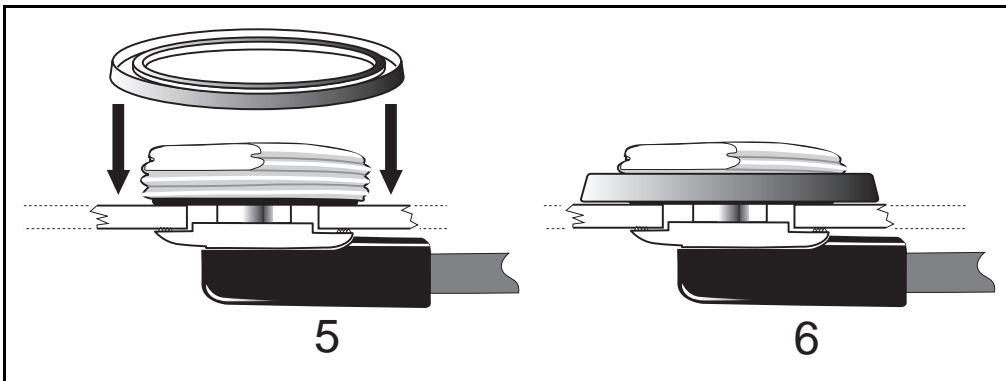

Figure 2.19 Attaching the antenna to the cable assembly
7. Place the rubber gasket over the brass nut (Step 5, Figure 2.19).